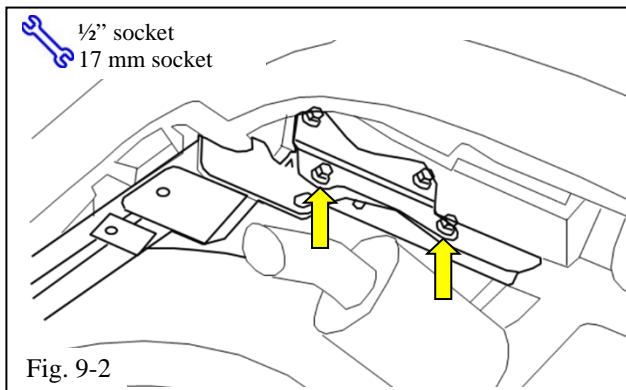

Fig. 9-2
- (d) Push the hitch up so it is flush to the frame rail and align the bottom two mounting bracket holes with the hitch bracket holes (Fig. 9-2).
- (e) Install (2) M12 bolts into the holes (Fig. 9-2).